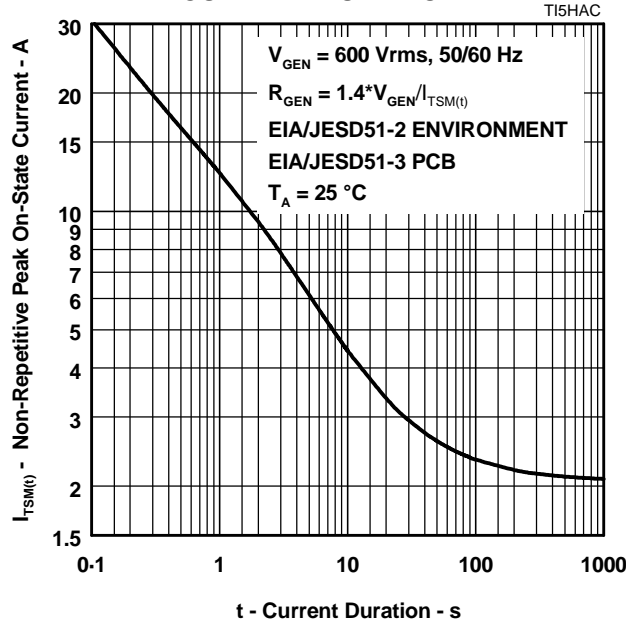

Figure 8.
5. EIA/JESD51-2 environment and EIA/JESD51-3 PCB with standard footprint dimensions connected with 5 A rated printed wiring track widths. See Figure 8 for the current ratings at other durations. Derate current values at -0.61 %/ $^\circ\text{C}$ for ambient temperatures above 25°C
The protector can withstand currents applied for times not exceeding those shown in Figure 8. Currents that exceed these times must be terminated or reduced to avoid protector failure. Fuses, PTC (Positive Temperature Coefficient) resistors and fusible resistors are overcurrent protection devices which can be used
to reduce the current flow. Protective fuses may range from a few hundred milliamperes to one ampere. In some cases it may be necessary to add some extra series resistance to prevent the fuse opening during impulse testing. The current versus time characteristic of the overcurrent protector must be below the line shown in Figure 8. In some cases there may be a further time limit imposed by the test standard (e.g. UL 1459 wiring simulator failure).